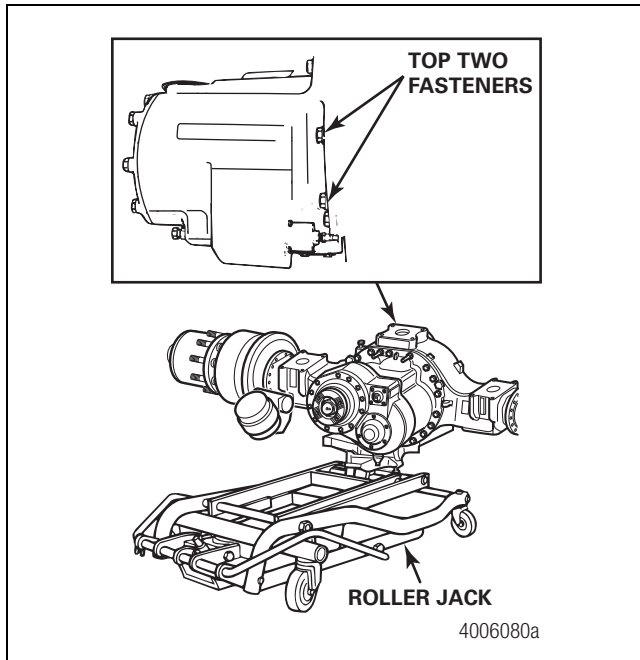

Figure 3.22
10. Position a hydraulic roller jack or suitable lifting device under the carrier. Figure 3.22.